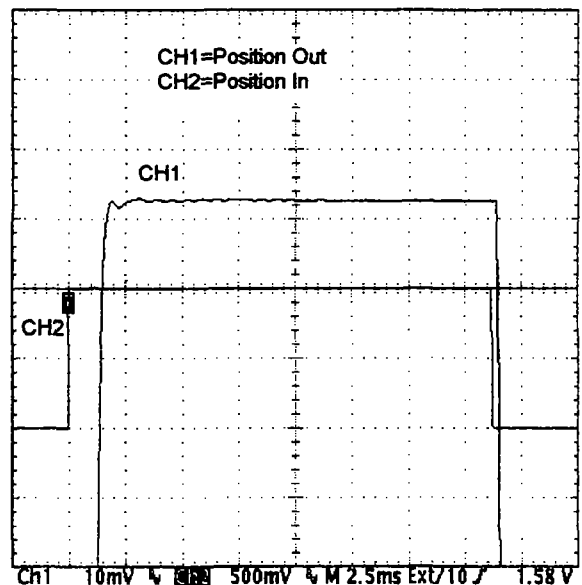

Figure 9.
5. Turn R28 CCW to bring the first overshoot at the same level as the settled waveform. See figure 9.